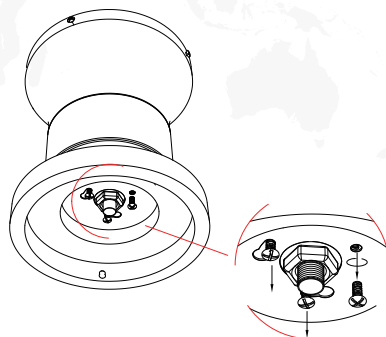

Figure 3
- ③ Twist out the screw that locks the round hole in the disc. Loosen the remaining two screws. (Figure 3)